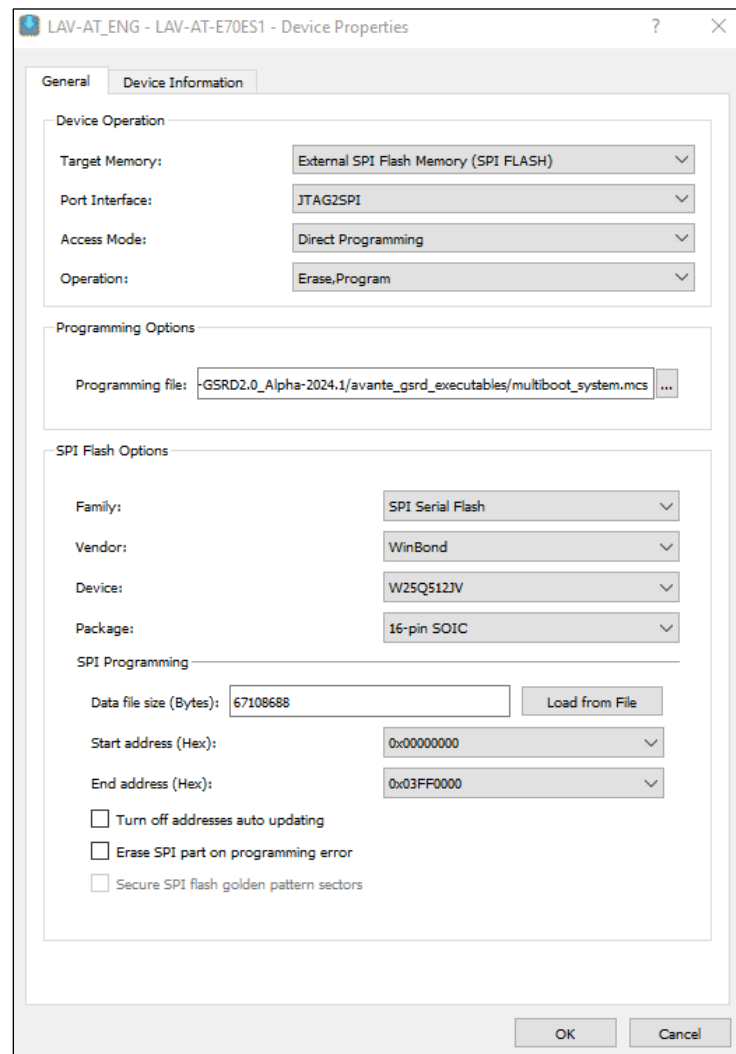

Figure 7.30.Device Properties window to setup MCS programming file
- To program the **multiboot_system.mcs** file, locate the file in the executables folder that you downloaded and add the file in the Programming file area. Start Address and End Address is allocated automatically. Confirm the settings as shown in Figure 7.30.